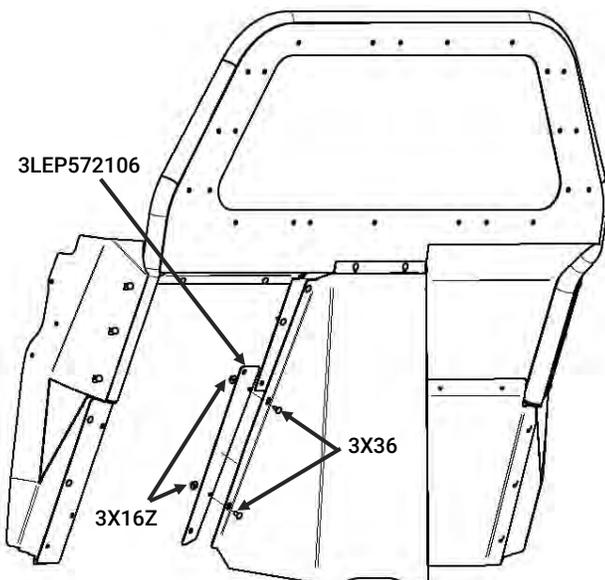

Figure 6
- B. Fasten inner housing backer [3LEP572106] using (2) carriage bolts [3X36] and whiz nuts [3X16Z] (Figure 6).